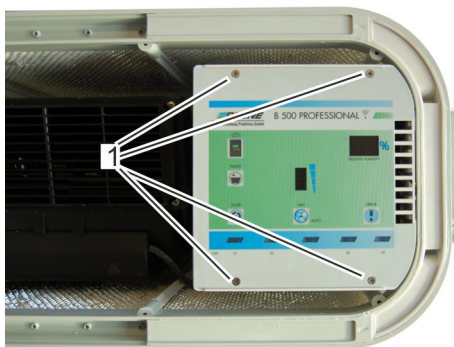

Fig. 72: Releasing the control panel
3. ➔ Use a screwdriver to loosen and unscrew the four screws at the surface of the control panel by turning counterclockwise (Fig. 72/1).